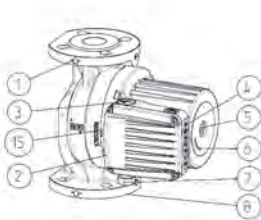
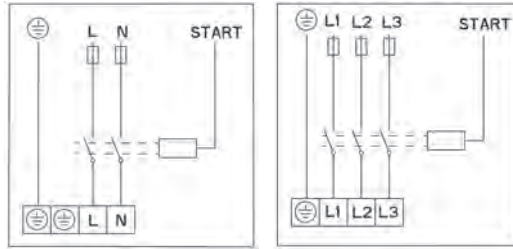

Fig.1
Fig. 3
- The pump should be incorporated into piping system with the pump axis 1-1 in horizontal position (Fig. 3).
- Direction of water flow through the pump should match with direction, indicated by an arrow on the pump casing (Fig.1-POS.1).
- The connecting flanges are designed for nominal pressure NP 6/10 (Fig.1 – POS.8).
- GHN (basic, auto), GHNM (basic, auto) pumps have a single hydraulic casing (Fig.1 – POS.8).
The hydraulic casing of the pump can be insulated only to the cleft between the motor and the hydraulic casing. Openings for condensate drainage should remain uncovered and enable the drainage from the stator housing. Similarly, the same openings must be uncovered also in heating systems, when only thermal insulation of hydraulic casing is implemented (Fig. 1, 2, POS. 15). Electric motor casing, on which the openings for condensate drainage are located, under no condition should not be insulated!
The connecting wire has to be connected over a cable entry M20 (Fig.1 – POS.7).
Electrical connections of the pump must be carried out in accordance with the wiring diagram (Fig. 3), attached on the bottom of motor cover. Before doing that unwind the upper cover (Fig. 1 - POS. 2).
In the pumps of types GHN (basic auto), GHND (basic, auto), GHNMD (basic, auto), GHNMD (basic, auto) the rotor is submerged and provided with special water-lubricated bearings. Before putting the pump into operation, it has to be filled with water and deaerated. Deaerate the pump by unscrewing a screw on the back side of the electric motor (Fig.1-POS.5). Air will flow out through the cleft between the motor shaft and the bearing. When water starts to flow out, close the valves at both the suction and pressure side of the pump. Start the pump and check the direction of shaft rotation. In case of a wrong direction a built-in flash lamp will start to blink with red light.
Each pump is able to cover the areas of three hydraulic characteristics. To achieve this, it has an inbuilt electric motor with three different revolution speeds. For achieving the selected characteristics or speeds ① ② ③, the pump has a push button  (Fig.1-POS. 4), with which we change speeds.
Switch off the pump, close the valve on both pressure and suction sides of the pump, unscrew the vent for deaeration, place the screwdriver (Fig.1-POS.5) in the notch on the shaft and twist as long as friction forces allow. Then screw the vent for deaeration.